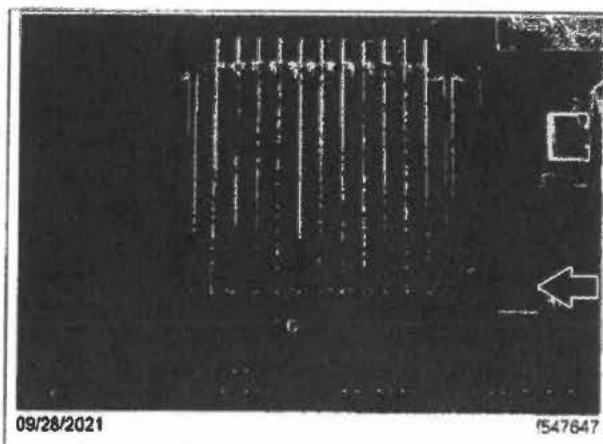

Fig. 12, Location of the Instrument Cluster ECU USB Ports
**IMPORTANT:** A universal serial bus (USB) extension cable that connects the instrument panel electronic control module (ECU) to the diagnostic connector may have been installed on the vehicle by the body builder. If a USB extension cable was not installed, or missing, locate the instrument panel ECU, and plug the flash drive directly into either of the USB ports on the instrument panel ECU. See Fig. 12.